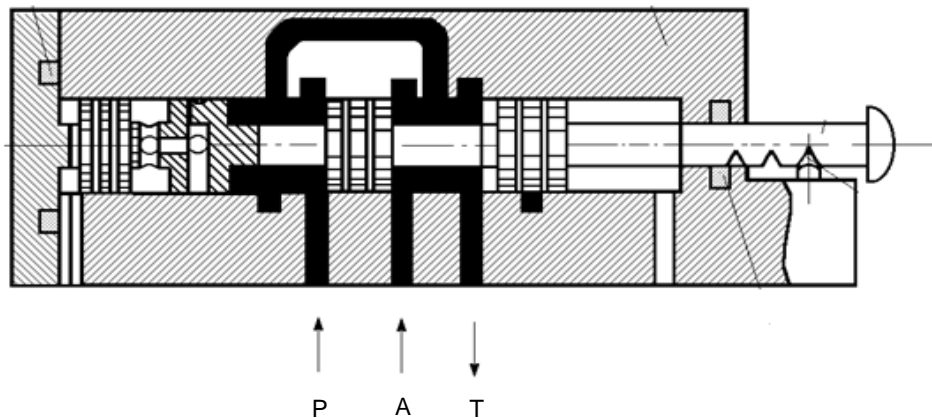

FIG 6.
- C. In the position shown in Fig 6, the oil will flow freely from port "P" to port "T" and from port "A" to port "T".